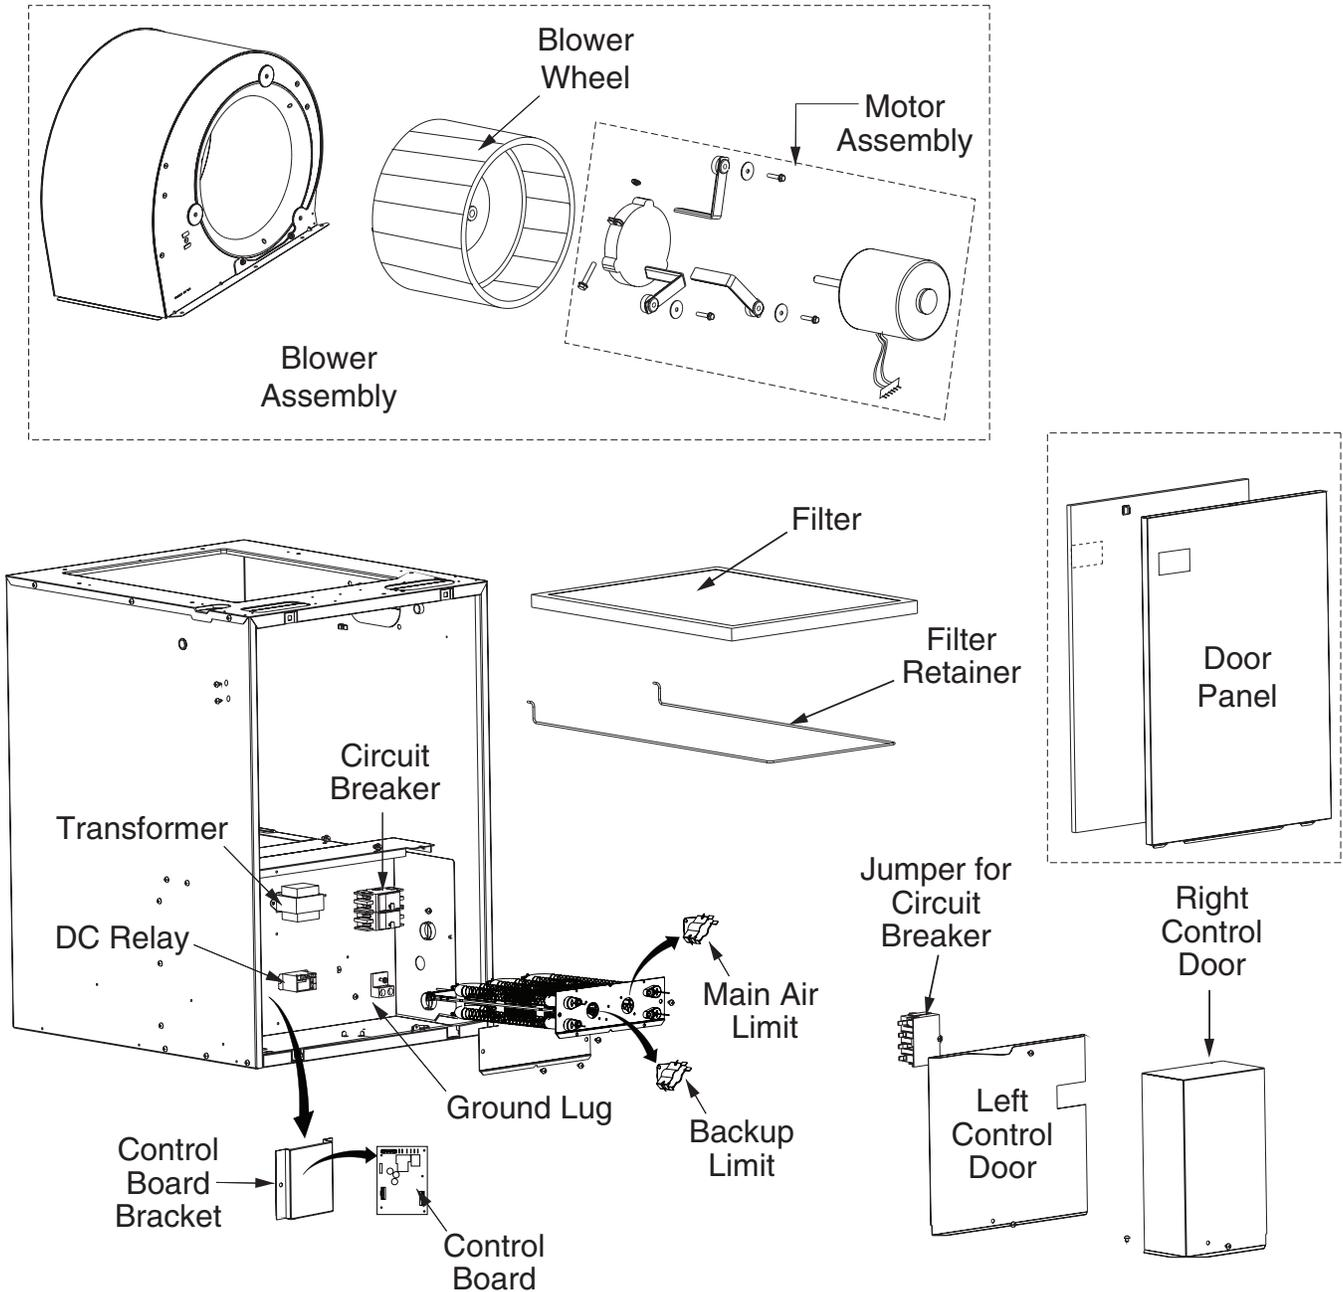

Figure 16. E7 Appliance Components
It is recommended that the line voltage (230 VAC) to the Appliance be supplied from a dedicated branch circuit containing the correct fuse or circuit breaker for the Appliance. For minimum circuit ampacity and maximum over-current protection, see Table 7 and Table 9. See unit wiring diagrams (Figure 22 \(page 20\), Figure 23 \(page 21\), Figure 24 \(page 22\), Figure 25 \(page 23\) & Figure 26 \(page 24\)) for wiring details. Electrical components are shown in Figure 16 \(page 12\). Supply circuit requirements are listed below:
6. Connect service ground wire(s) to grounding lug(s) provided. See Figure 16 (page 12). One ground is required for each supply circuit used.